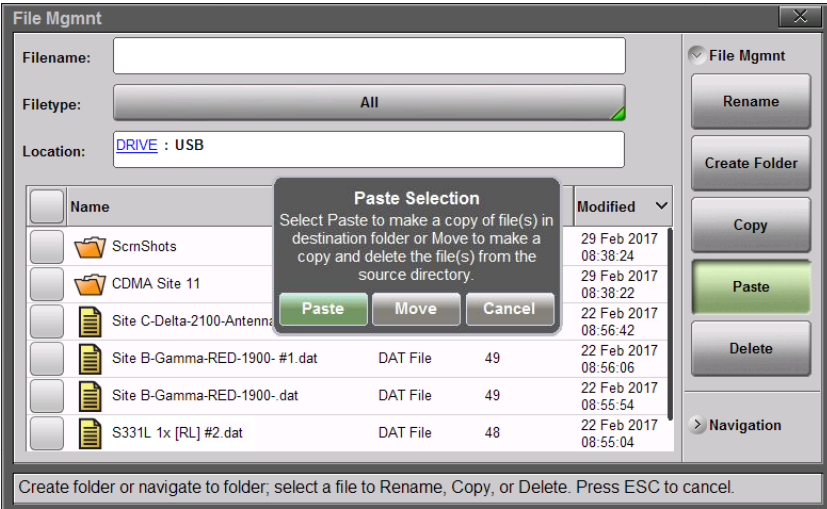

Figure 8-20. Paste File
7. Navigate to the destination folder as needed, then press Paste to either copy or move the selected files and folders from internal memory to the USB drive. See Figure 8-20.
Paste: Press this submenu key to paste the selected files and/or folders to the destination location. In the message box that appears (see Figure 8-20 on page 8-18), press Paste to create duplicate copies in the destination folder; press Move to place copies in the destination folder and remove the selected files from the source location. If files or folders with the same name already exist in the destination location, the Site Master will ask you to confirm that the existing files should be overwritten.
<p>Navigation</p> <p>Top</p> <p>Bottom</p> <p>Page Up</p> <p>Page Down</p>	<p>Create Folder: Press this submenu key to create a new folder in the highlighted location or folder. Name the new folder with the onscreen keyboard and press Save.</p> <p>Copy: Press this submenu key to mark the selected files and/or folders for copying or moving, using the Paste command. Use the checkbox column to select multiple items to copy or move.</p> <p>Paste: Press this submenu key to paste the selected files and/or folders to the destination location. In the message box that appears (see Figure 8-20 on page 8-18), press Paste to create duplicate copies in the destination folder; press Move to place copies in the destination folder and remove the selected files from the source location. If files or folders with the same name already exist in the destination location, the Site Master will ask you to confirm that the existing files should be overwritten.</p>